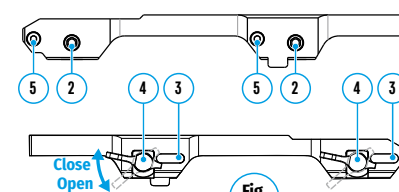
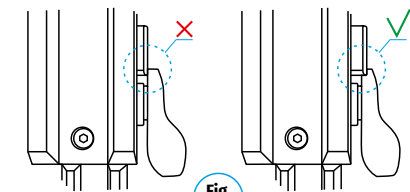

Fig. 3
Fig. 4
- Move the clamps (4) to the “OPEN” position and relieve the retaining nuts (2) of the clamps (4) using the S5 hex-nut wrench (Fig. 3).
- Move the clamps (4) from “OPEN” to “CLOSE” position (Fig. 3).
- By tightening the retaining nuts (2) of the clamps (4) with a hex-nut wrench S5 make sure that the mount is securely fixed on the rail without gaps.
- Check that the clamps (4) are securely fixed with the latches (3) in the “CLOSE” position - when trying to move the clamps from “CLOSE” to “OPEN” position - they should rest against the latches.
- If this does not happen (the clamps skip the latches) - increase the height of the clamps. To do this, use the S3 hex-nut wrench to rotate the retaining nuts (5) of the latches counter-clockwise until the clamps securely rest against the latches (Fig. 4).
- Press the latches (3) and move the clamps (4) to the “OPEN” position; you should be able to easily remove the riflescope from the rail.